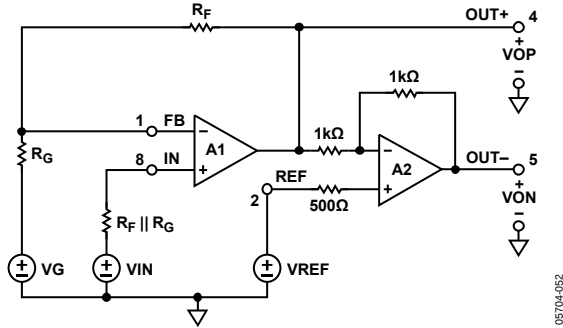

Figure 48. Basic Connections (Power Supplies Not Shown)
The ADA4941-1 is a low power, single-ended input, differential output amplifier optimized for driving high resolution ADCs. Figure 48 illustrates how the ADA4941-1 is typically connected. The amplifier is composed of an uncommitted amplifier, A1, driving a precision inverter, A2. The negative input of A1 is brought out to Pin 1 (FB), allowing for user-programmable gain. The inverting op amp, A2, provides accurate inversion of the output of A1, VOP, producing the output signal VON.
In Figure 48, R_G and R_F form the external gain-setting network. VG and VREF are externally applied voltages. V_{O, cm} is defined as the output common-mode voltage and V_{O, dm} is defined as the differential-mode output voltage. The following equations can be derived from Figure 48: